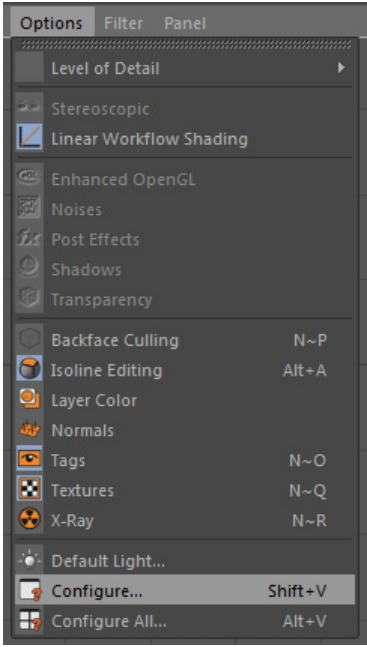
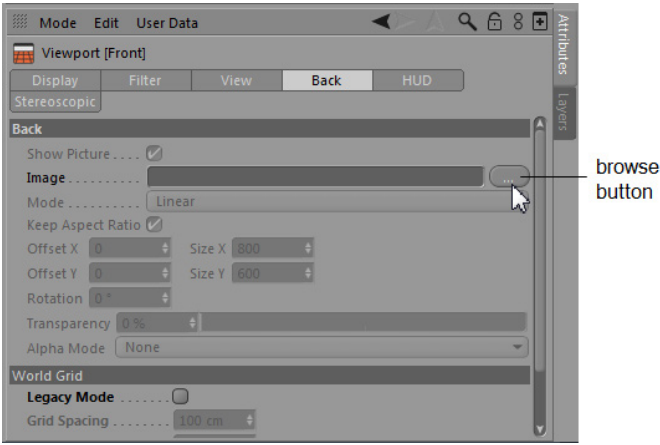

Figure 2-3 Choosing the **Configure** option from the Menu in editor view
Figure 2-4 Choosing the browse button next to the **Image** text box
3. Choose **Options > Configure** from the Menu in editor view, as shown in Figure 2-3; the **Viewport [Front]** settings are displayed in the Attribute Manager. In the Attribute Manager, choose the **Back** button; the **Back** area is displayed. In this area, choose the browse button next to the **Image** text box, as shown in Figure 2-4; the **Open File** dialog box is displayed. Browse to `|Documents|c4dr17|c02|keyhole.jpg`. Next, choose the **Open** button; the *keyhole.jpg* is opened as the background image in the Front viewport.